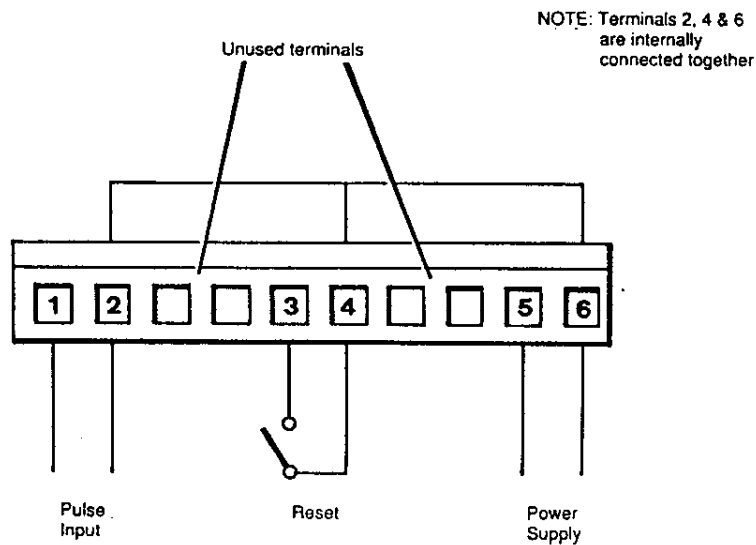

Fig 20. Terminal connections viewed from rear of totaliser
- iii Connect wiring to the terminals as shown in Figure 20.